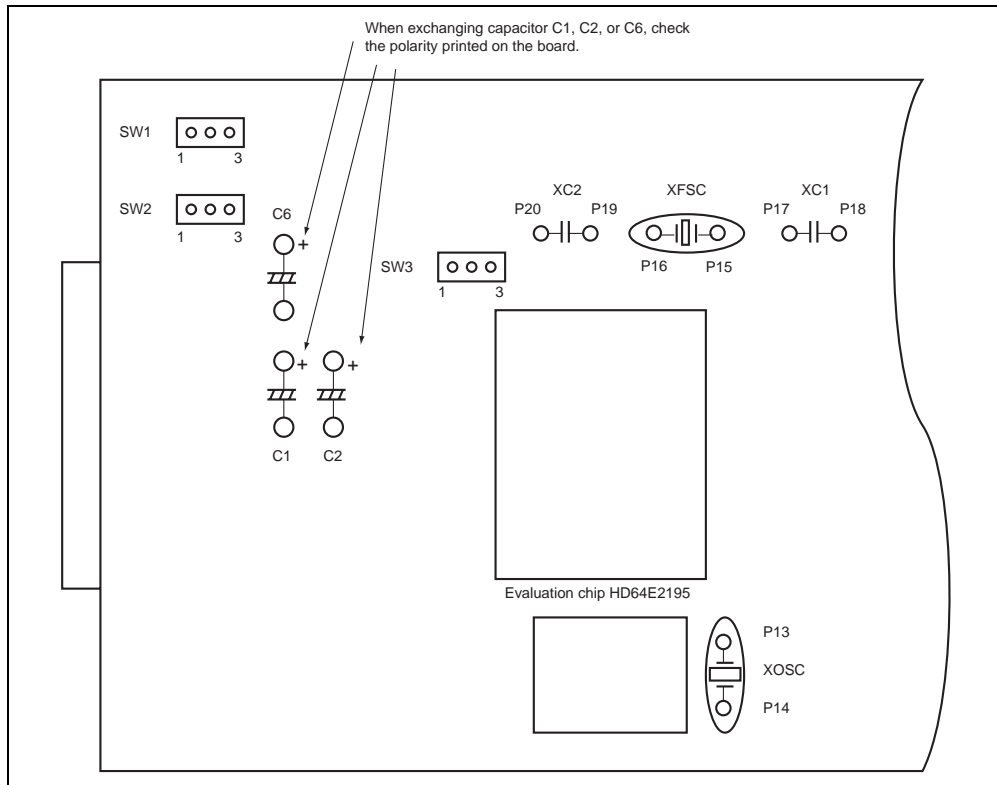

Figure 7.13 Locations of Clocks and Switches
2. Install the crystal oscillator on the crystal oscillator installation pin (XOSC, between P13 and P14). See figure 7.13 for installation location.